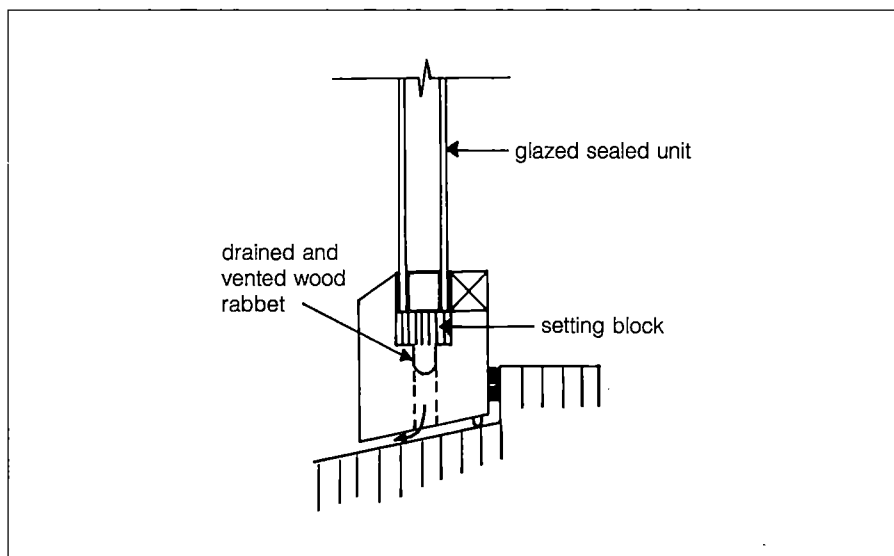

Fig. 36. Lower glazing – sash wood window
- Use windows with cavities that are vented and drained (see CMHC Materials Evaluation Reports). Condensation in an insulating glass unit is usually caused by the failure of the seal of the unit. Moisture that enters the cavity gets trapped inside and the unit must be replaced. Windows that are glazed with vented cavities prevent the rain from entering. If water does enter it can escape (*fig. 36*).